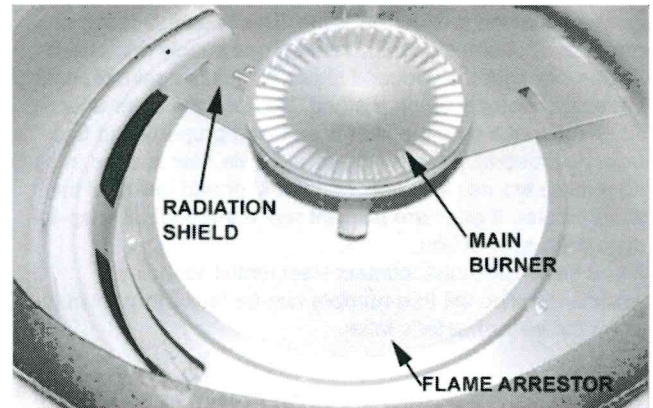

Figure 11
7. Inspect the radiation shield (thin circular metal sheet under the burner and above the flame arrestor), see Figure 11. If any of the sides of the radiation shield are touching the base (disrupting air flow), install 1/2-inch high feet under the radiation shield. To obtain the feet free of charge, contact Residential Technical Assistance referencing the number in your manual.